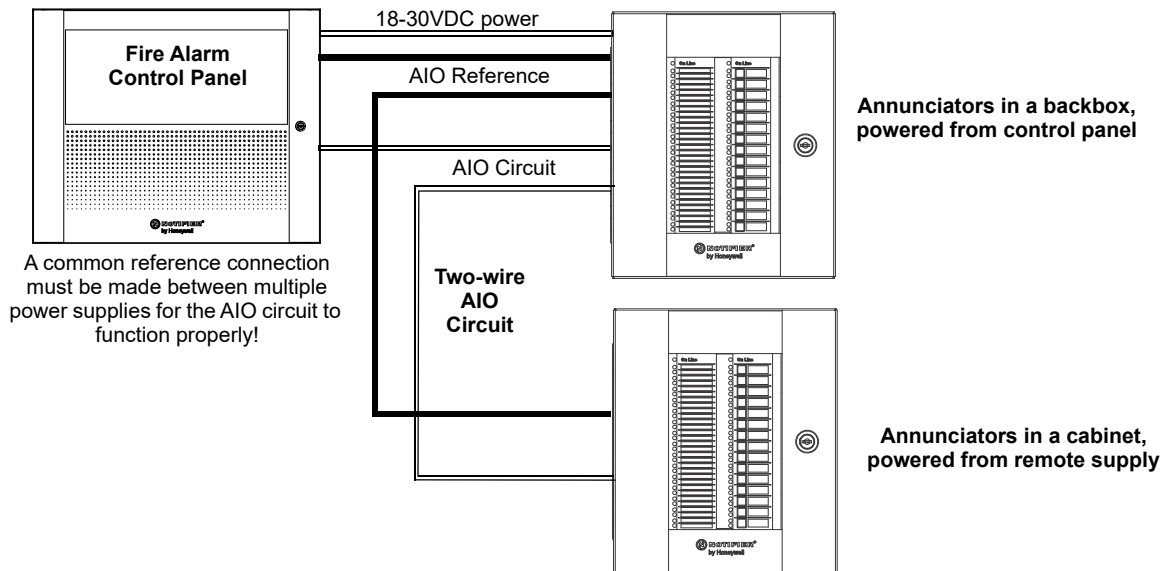

Figure 2.6 Using Multiple Power Supplies with the AIO Circuit
- If annunciators are to be mounted in a separate cabinet or powered by a remote power supply, see Figure 2.6, "Using Multiple Power Supplies with the AIO Circuit".